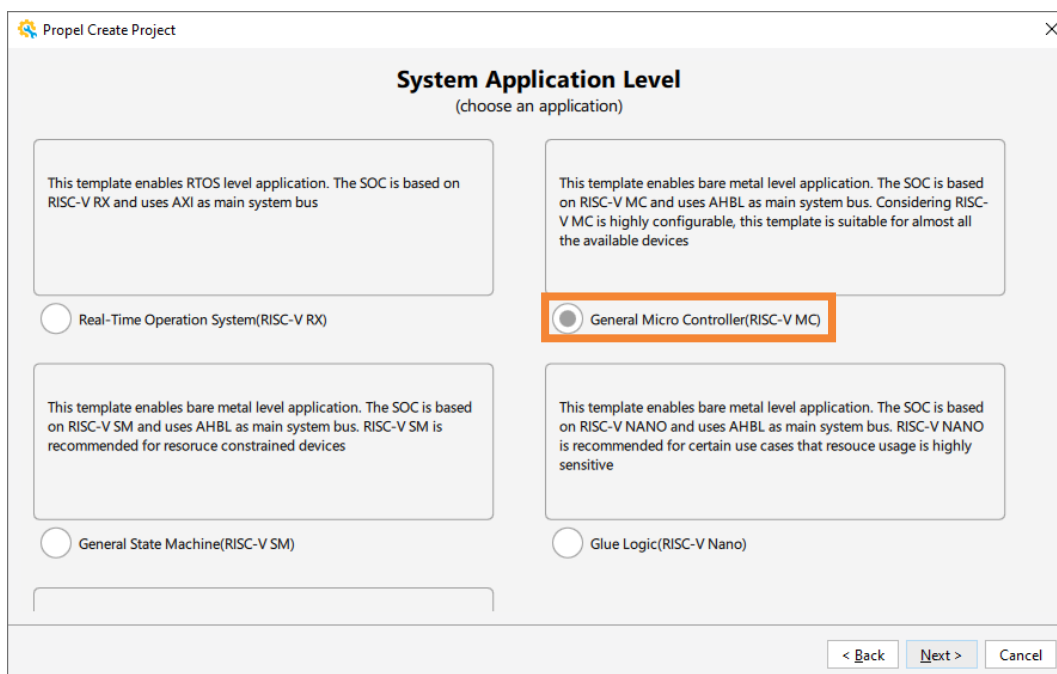

Figure 6.5. Selecting General Micro Controller RISC-V MC for System Application Level
- Click **Next**. Choose **General Micro Controller RISC-V MC** (Figure 6.5).